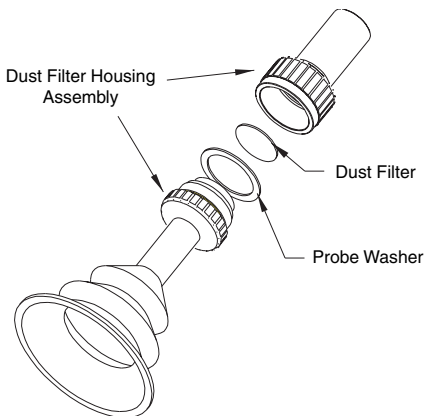

Fig. 5-12 Dust Filter Assembly
- 1) Unscrew the filter assembly (Fig. 5-12).